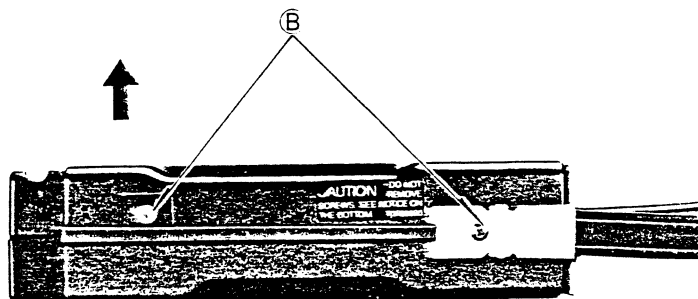

Fig. 2
2. Lift up upper cabinet as shown the arrow in Fig. 2.